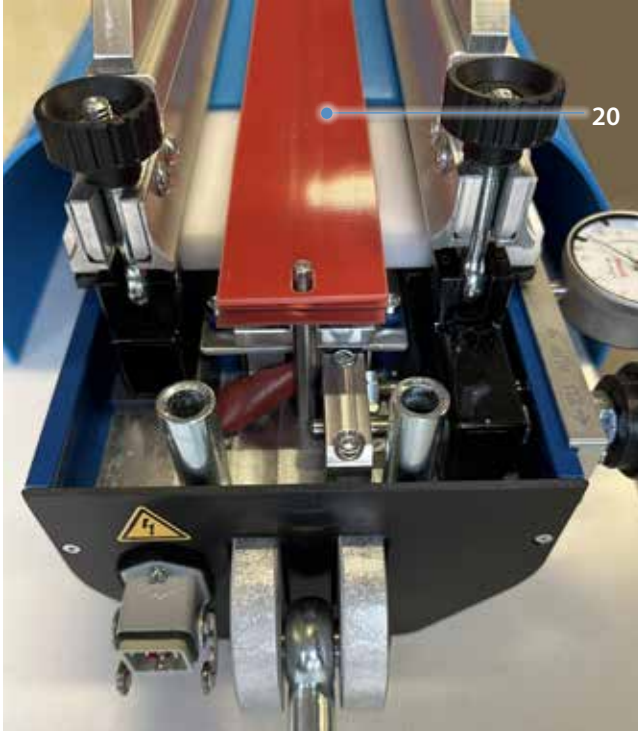

Fig. 4.2.7
17. Depending on the belt type, apply cover material over the full heating surface over the entire width and position and the second laminated fabric inlay (20) on the cover material. (Fig. 4.2.7)